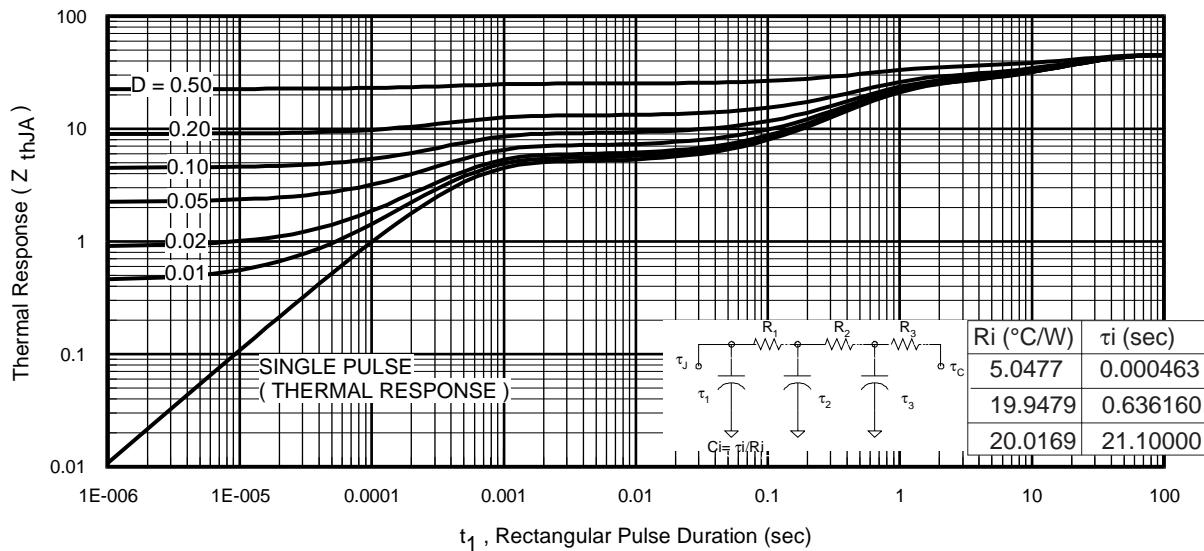
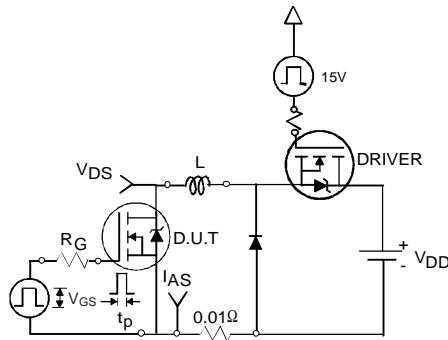

Fig 11. Maximum Effective Transient Thermal Impedance, Junction-to-Ambient
Fig 12a. Unclamped Inductive Test Circuit
- ① Repetitive rating; pulse width limited by max. junction temperature. (See fig. 11).
- ② Limited by $T_{J\text{max}}$, starting $T_J = 25^\circ\text{C}$, $L = 2.8\text{mH}$ $R_G = 25\Omega$, $I_{AS} = 3.1\text{A}$, $V_{\text{GS}} = 10\text{V}$. Part not recommended for use above this value.
- ③ Pulse width $\leq 1.0\text{ms}$; duty cycle $\leq 2\%$.
- ④ $C_{\text{oss eff.}}$ is a fixed capacitance that gives the same charging time as C_{oss} while V_{DS} is rising from 0 to 80% V_{DSS} .
⑤ Limited by $T_{J\text{max}}$, see Fig.12a, 12b, 15, 16 for typical repetitive avalanche performance.
⑥ This value determined from sample failure population. 100% tested to this value in production.
⑦ When mounted on 1 inch square copper board.
⑧ When mounted on FR-4 board using minimum recommended footprint.
3. Equation below based on circuit and waveforms shown in Figures 12a, 12b.
$Z_{thJC}(D, t_{av})$ = Transient thermal resistance, see figure 11)